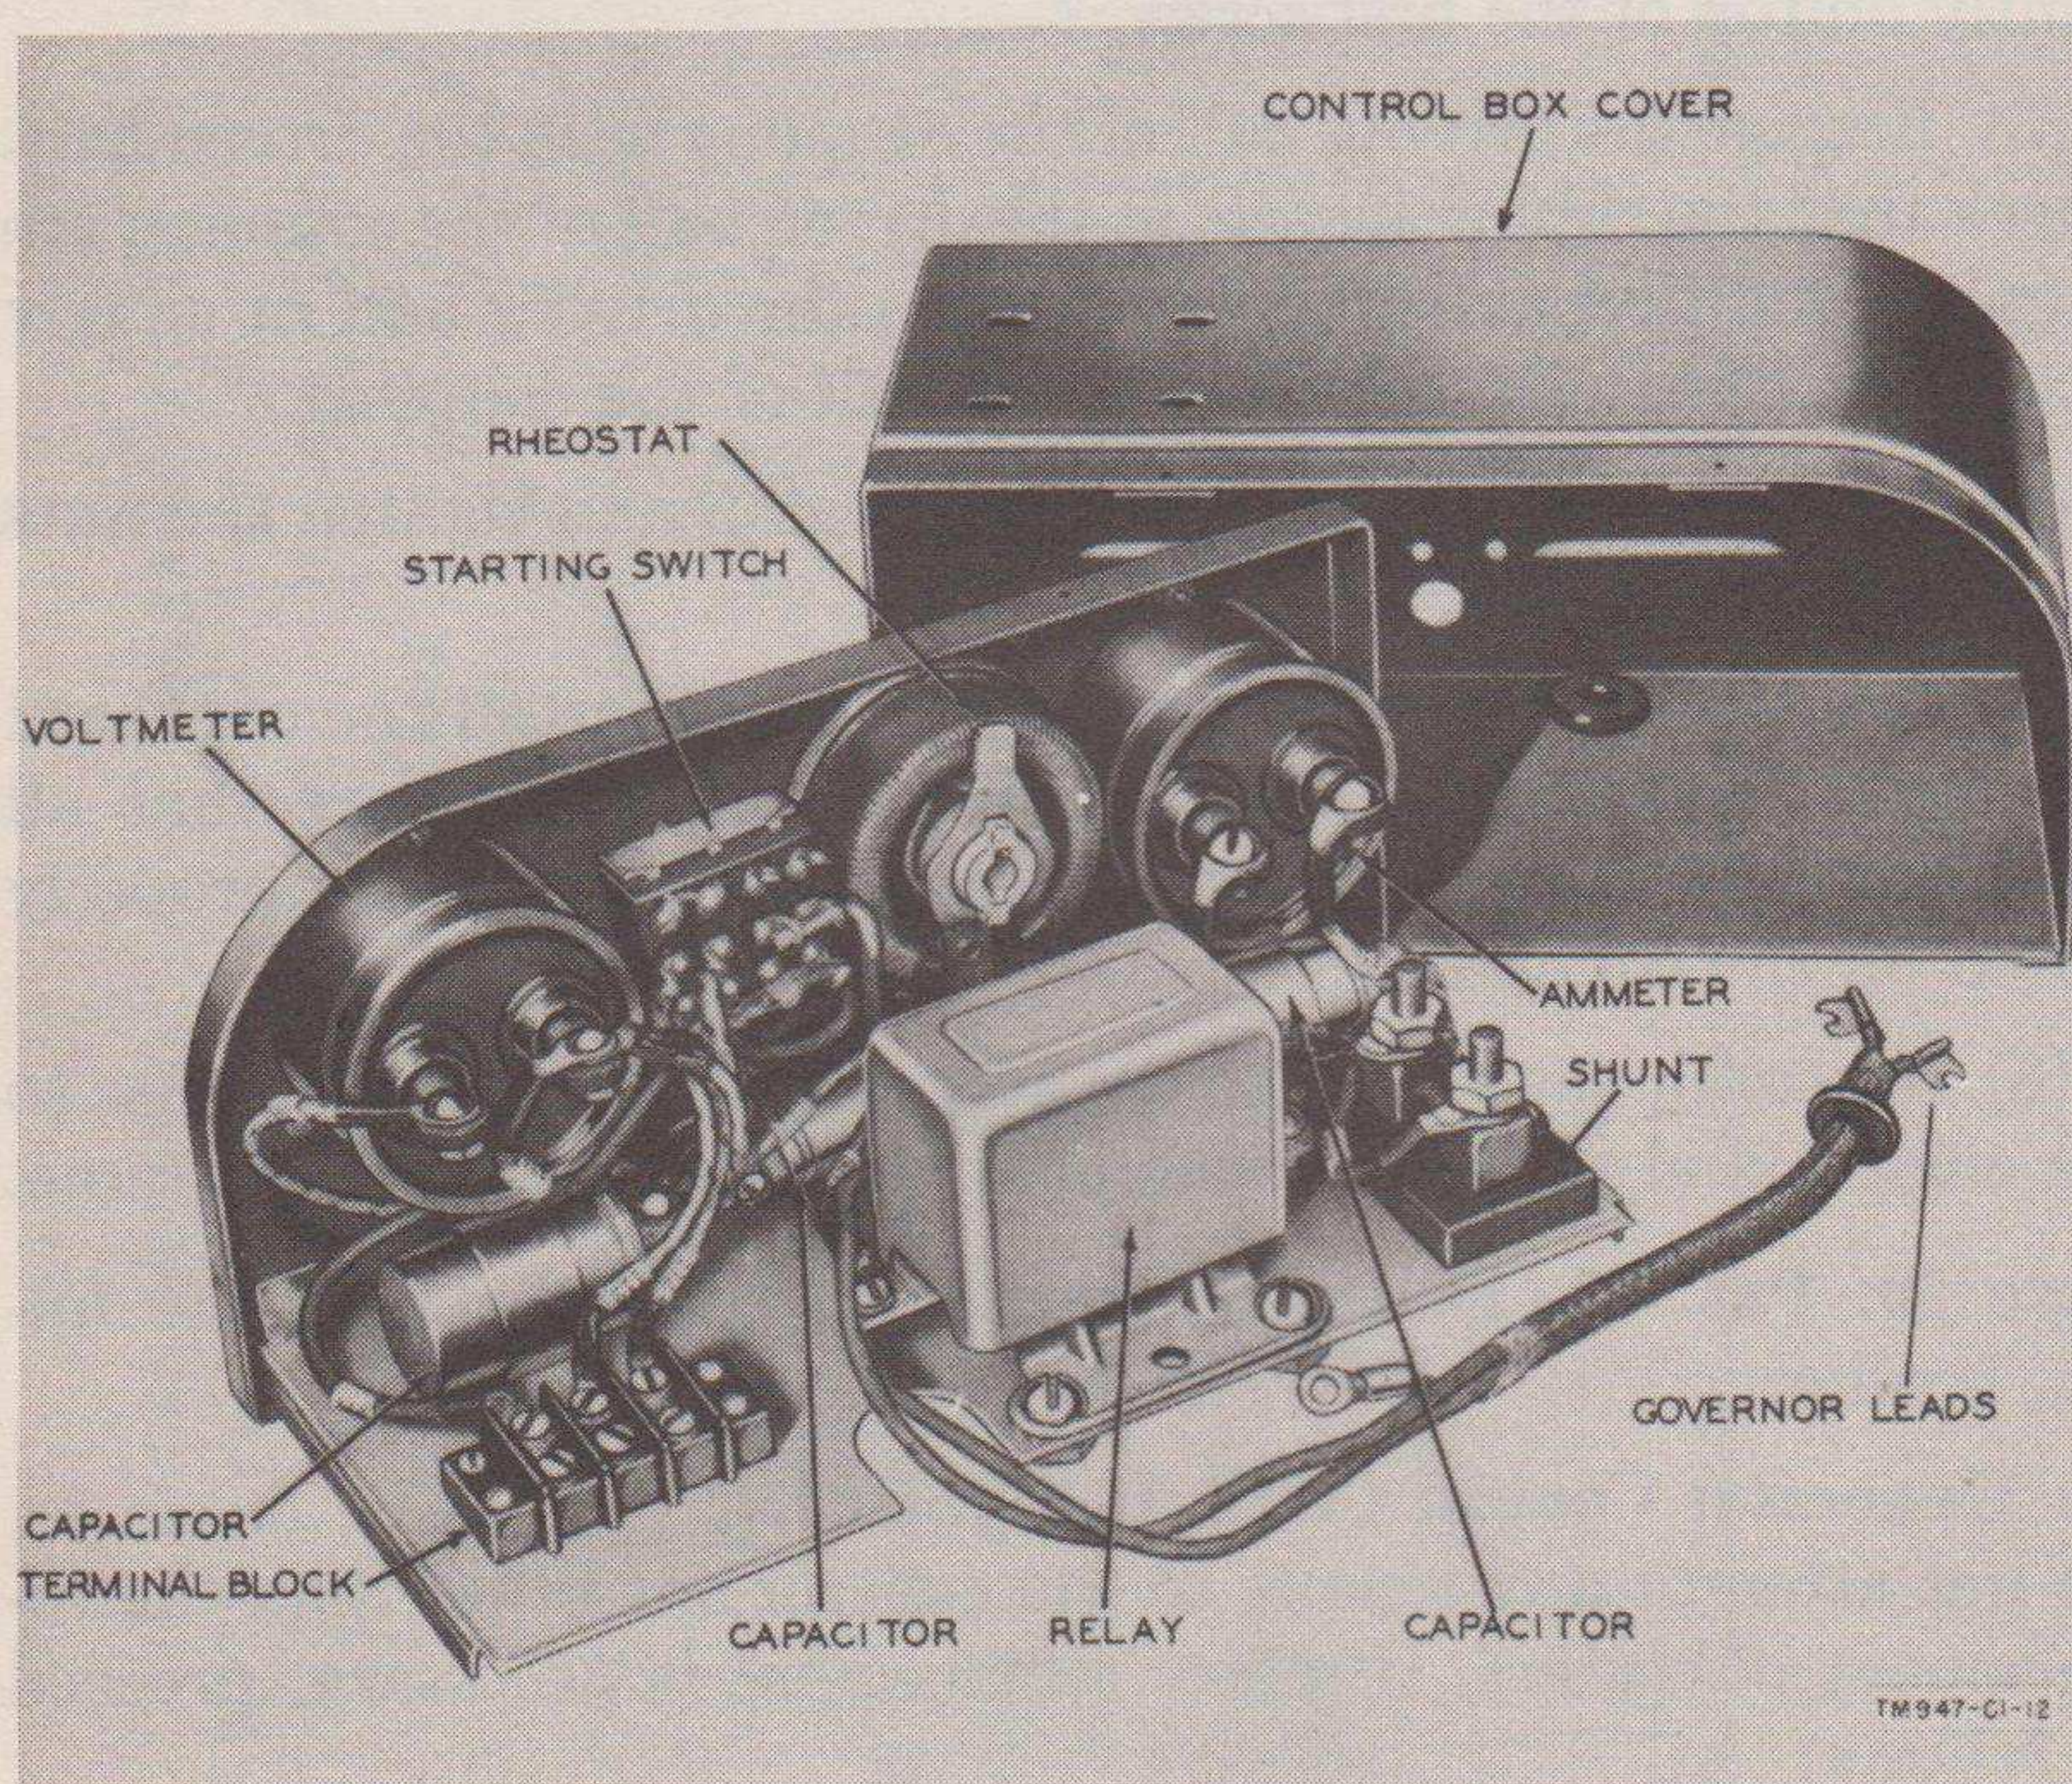

Figure 50.1. Power Unit PE-210-B, Generator Control C-890/U.
(1) Insert the armature in the magnet frame assembly. The brushes should be removed for ease of installation. If necessary, tap the end of the armature to drive the shaft into the outboard end bearing. Protect the end of the shaft with a block of wood when tapping, and drive the shaft into the bearing only far enough to engage the retaining screw. Pull the shaft the rest of the way into the bearing by turning up on the screw.
(2) Turn the stator (magnet frame) on the end bell until the matching marks are aligned. Insert the through-bolts and install the engine end bearing plate and bearing. Place the Woodruff key in the keyway on the splined end of the shaft and install the coupling and fan assembly onto the shaft. Insert one of the Allen-head set screws in the hole in the fan hub and turn it down tight. Insert the second Allen-head screw in the same hole and turn it down tightly on top of the first screw.
(3) Engage the driving half of the coupling with the driven half. Check that the rubber inserts in the driven half of the coupling are in good condition and that the pins on the driving half fit snugly into the rubber inserts in the driven half of the coupling.
(4) Install the engine end bell, and install and tighten the nuts on the through-bolts.
(5) Install the generator brushes and then install the outboard end cover. Before installing the end cover, make sure that all brushes move freely in their holders and that they are properly seated on the commutator.
(6) Assemble the engine to the generator. Attach the subbase to the engine, and install the complete assembly in the unit frame.
**79. Generator Control C-890/U (fig. 50.1)**
Page 82. Fig. 50. Insert figure 50.1 after figure 50.